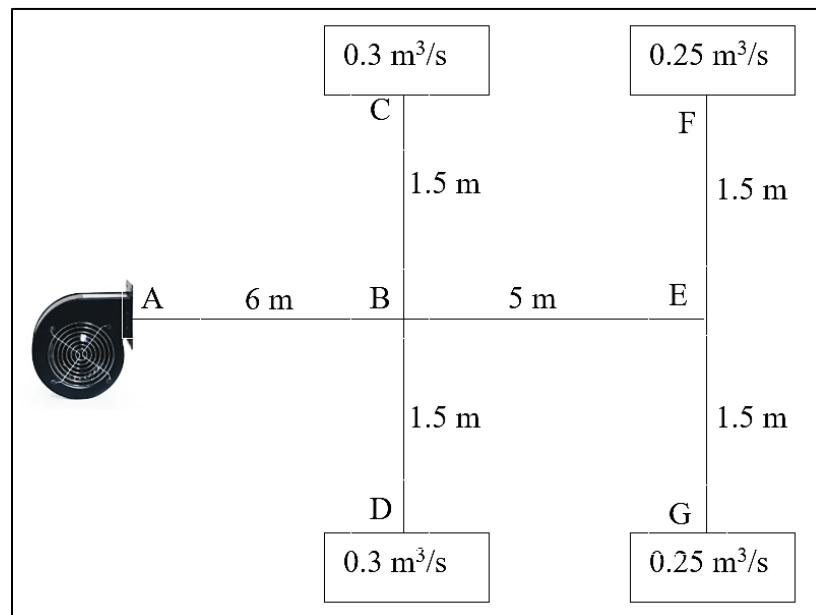

Figure B3(b) / Rajah B3(b)
- CLO1 (b) Figure B3(b) shows an air-distribution system for a meeting room, having flow rates as indicated. The velocity of the main duct (AB) is 6 m/s. By using equal friction method and Chart 4.33 (Appendix 5), calculate the total pressure loss (Pa) for the air-distribution system. Ignore the loss coefficients for fitting.